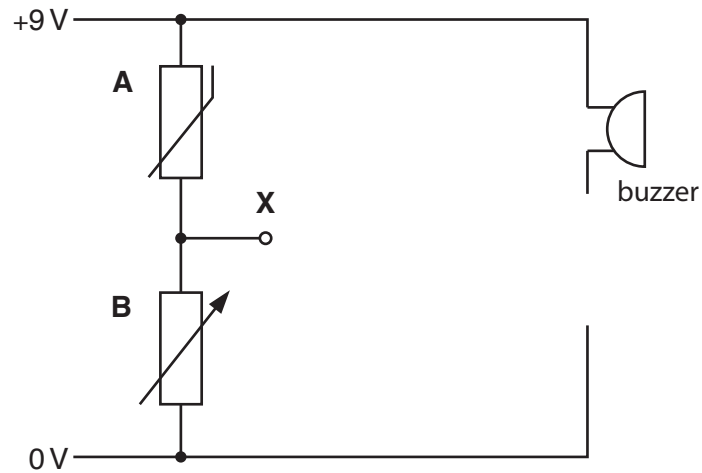

Fig. 3
- 4 Fig. 3 shows a potential divider arrangement in an incomplete circuit for a temperature alarm.